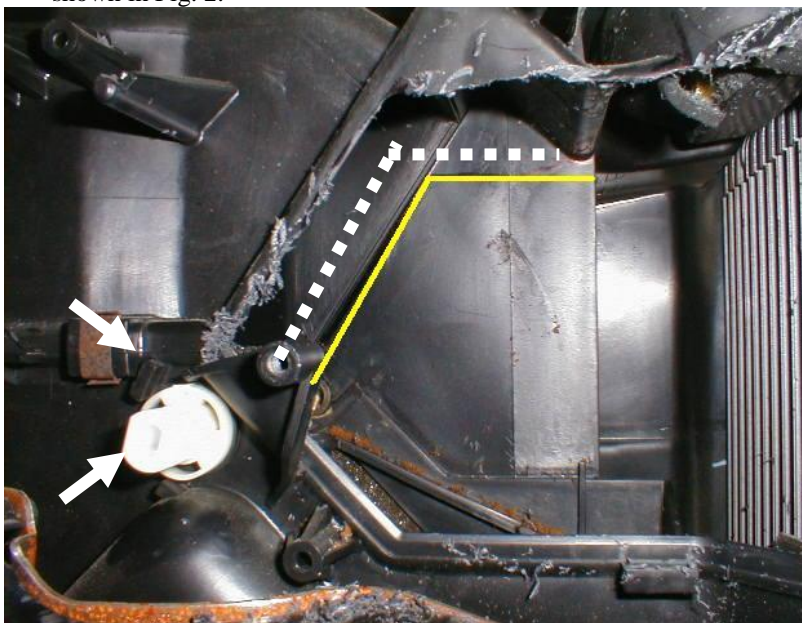

Fig. 2
7. Once the first cut is made, you are now ready to make the second cut to remove the separator wall. Follow the cutting pattern shown in Fig. 2.
10. Insert the provided axle through the box and through both doors. . The axle has a roll pin that limits the extents of rotational movement. Fig.2 shows the location of the two stop points molded into the heater box. The axle is inserted such that the roll pin is constrained between those two points.